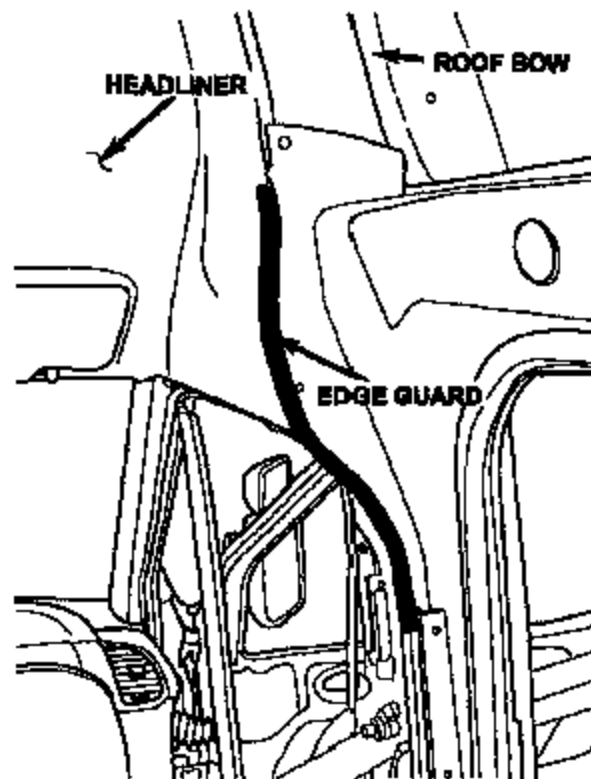

Figure 4 – Passenger Side Shown
5. Detach the edge guard on left and right side of the partition wall attachment plate (Figure 4).
11. Attach the edge guard onto the left and right partition wall attachment plate (Figure 4).